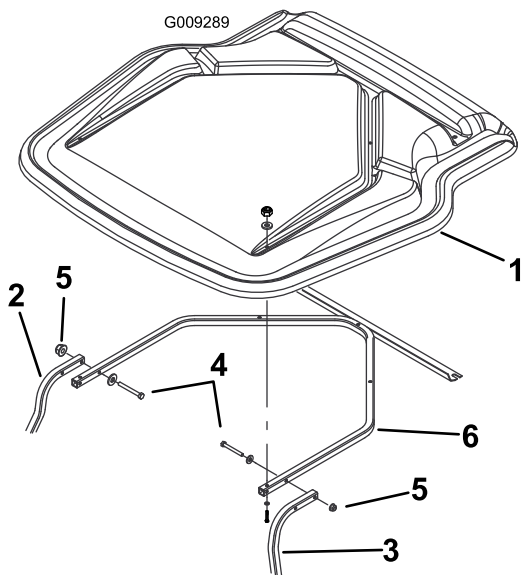

Figure 2
5. Lift the canopy up onto the front supports. Loosely attach the canopy to the front supports using four long screws (5/16 x 2-3/4 inch), four flat washers (5/16 inch), and four flange nuts (5/16 inch) (Figure 2).
Note: The canopy support is already loosely attached to the canopy (Figure 2).